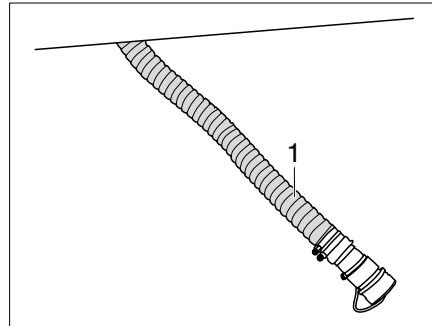

Fig. 368 Emptying the cassette of the macerator toilet
- Detach the drain hose (Fig. 368,1) below the vehicle and position it into the disposal station.
- Leave the drain hose (Fig. 368,1) in the disposal station.
- Store the drain hose (Fig. 368,1) under the vehicle.